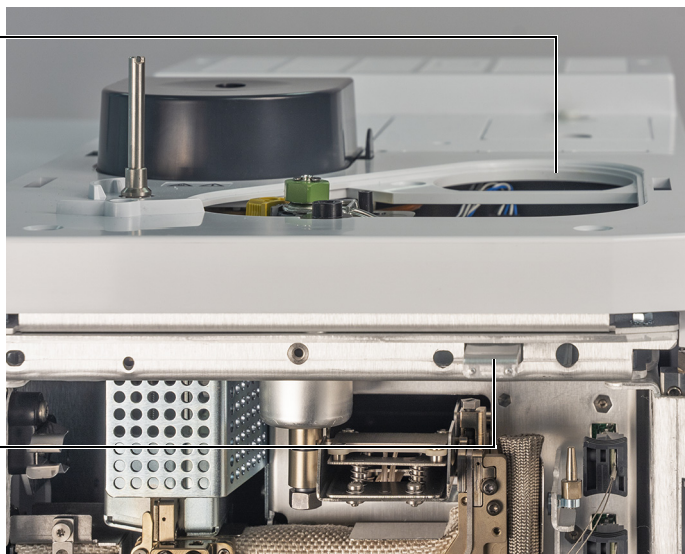

Figure 11. GC inlet cover and compression bolt access plate
- 6 Remove the inlet cover. (See **Figure 11.**)